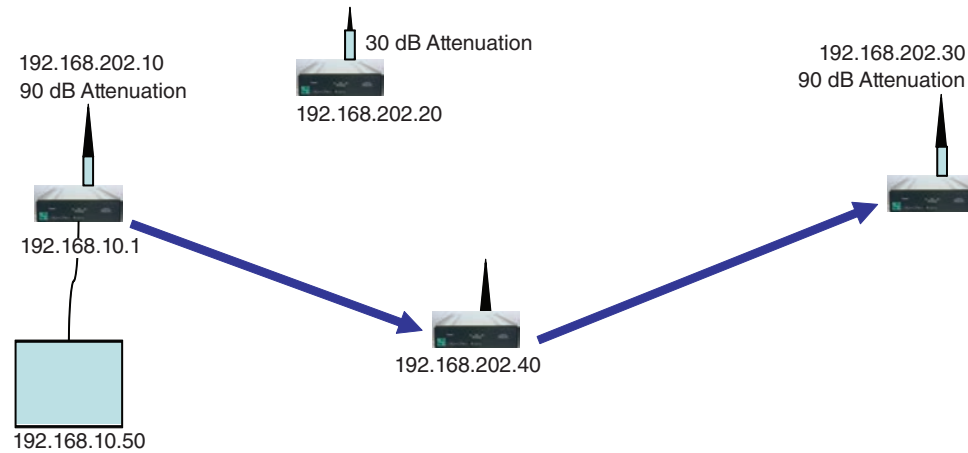

Figure 37. Testing for alternate routing, Node 40 restored.
STEP 7. Re-power Radio #40 and observe the tracert and pings as the node reroutes to optimum performance. See Figure 37. C:\ping 192.168.202.30 -t. C:\>tracert 192.168.202.30.